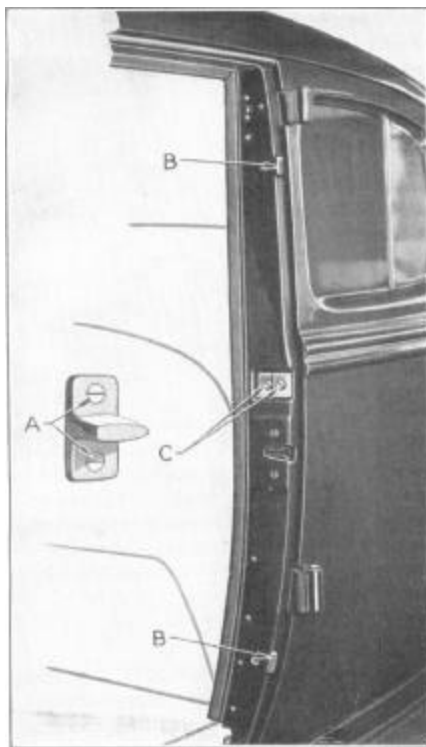

Figure 21
To adjust doors, first loosen the screws (A), Figure 21, holding the male portion of the dovetail to the door and move up or down as necessary so that it lifts the door 1/16" as it enters the female member when the door is being closed.